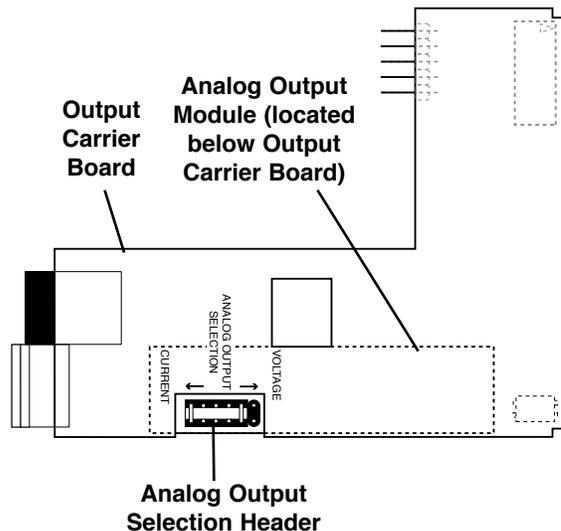

Figure 8 – Analog Output Selection Header Placement
- 1) See Figure 8. Make sure the analog output selection header on the analog output module is set in the appropriate position: VOLTAGE or CURRENT (Factory preset to CURRENT).